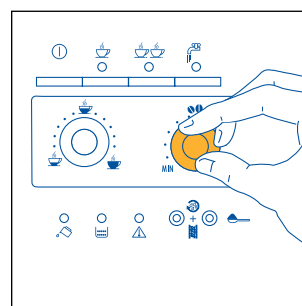
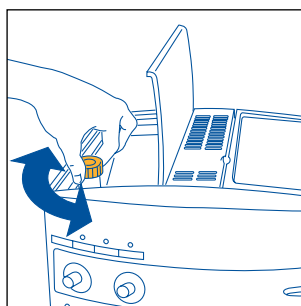

Fig.7
Fig. 17
- 2) Adjust the right-hand knob (Fig. 7) to set the desired taste of the coffee. Turning the knob clockwise increases the quantity of coffee beans that the machine will grind, and thus makes the taste of the coffee stronger. When using the machine for the first time, the correct position of the knob can be found by trial and error. Make sure not to turn it too far clockwise, otherwise the coffee will be delivered too slowly (in drops), above all when preparing two cups of coffee.
NOTE 1 : *If the coffee is delivered a drop at a time or not at all, turn the grinding coarseness regulator (fig. 17) one click clockwise (see para. 6). Turn a click at a time until the coffee is delivered satisfactorily.*
NOTE 2: *If the coffee is delivered too fast and is not creamy enough, turn the right-hand knob (fig. 7) clockwise. Proceed by trial and error to find the correct position of the knob. Make sure not to turn the knob too far clockwise, otherwise the delivery may become too slow (in drops), above all when making two cups of coffee. If, after several coffees, the cream is still not satisfactory, also turn the grinding adjustment knob (Fig. 17) one click clockwise (see para. 6).*
To resolve this problem, re-set the grinding coarseness on the coffee grinder by adjusting the knob (Fig. 17) one click anticlockwise (as described in chap. 6).
Nonetheless, after having made the first coffees, if delivery is too fast or too slow (in drops), the grinding coarseness must be adjusted using the knob (Fig.17) located inside the bean container. Turning one click (one number) clockwise achieves faster delivery of the coffee (without drops).